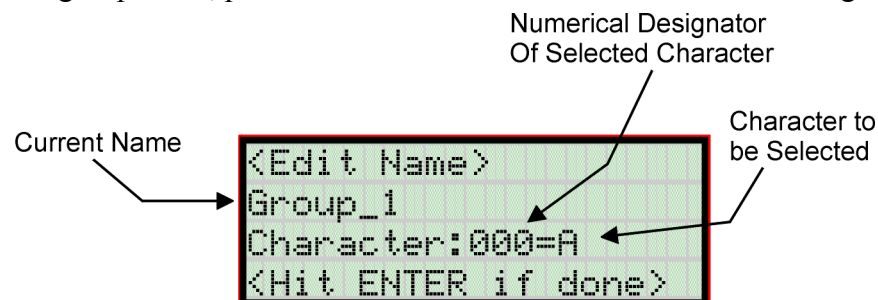

Figure 7-7 Selecting Character for Zone Name
7. To edit the group name, press . A screen similar to the one shown in Figure 7-7 displays.